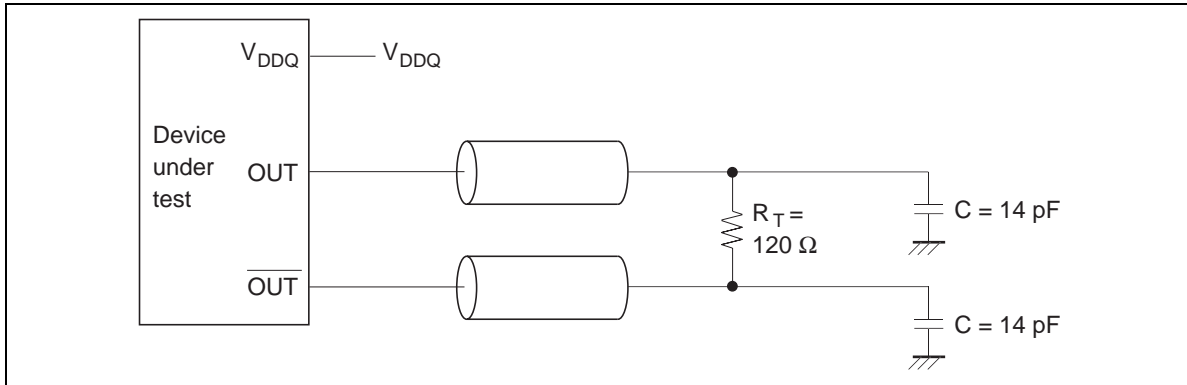

Figure 2 Differential signal using direct termination resistor
3. All outputs are loaded as shown in Figure2.
Differential clock outputs are directly terminated by a $120\ \Omega$ resistor. Figure 2 is typical usage conditions of outputs load.